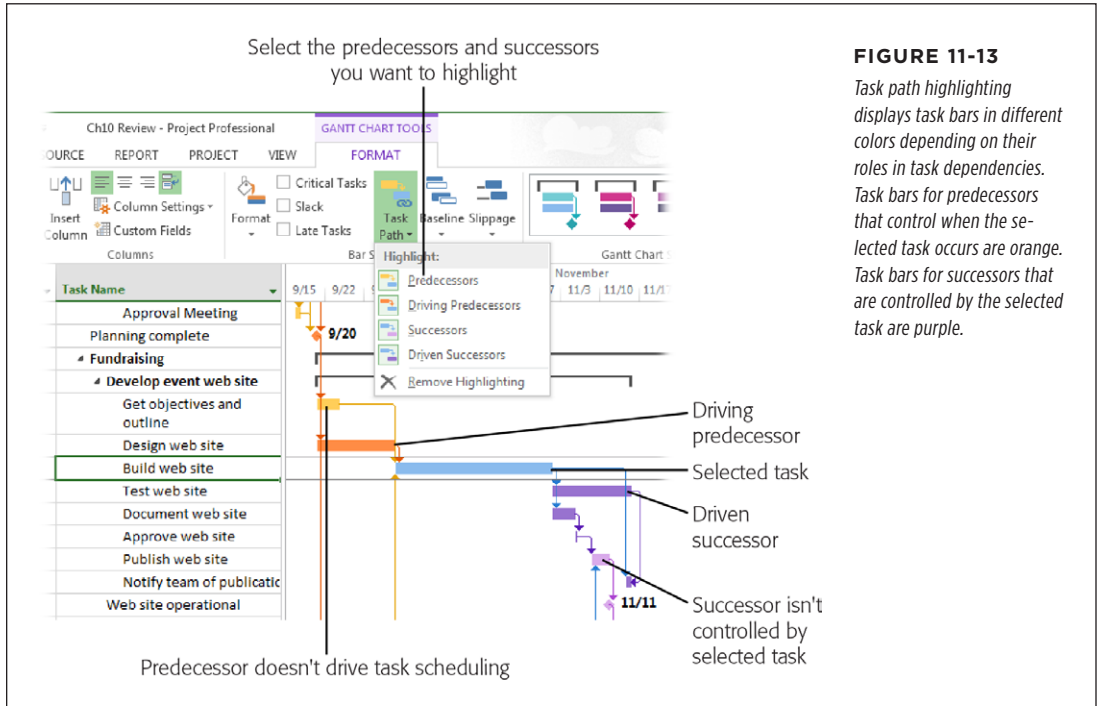

FIGURE 11-13
- 2. Click the Gantt Chart Tools | Format tab. In the Bar Styles section, click Task Path, and then choose the items you want to highlight, as shown in Figure 11-13.**